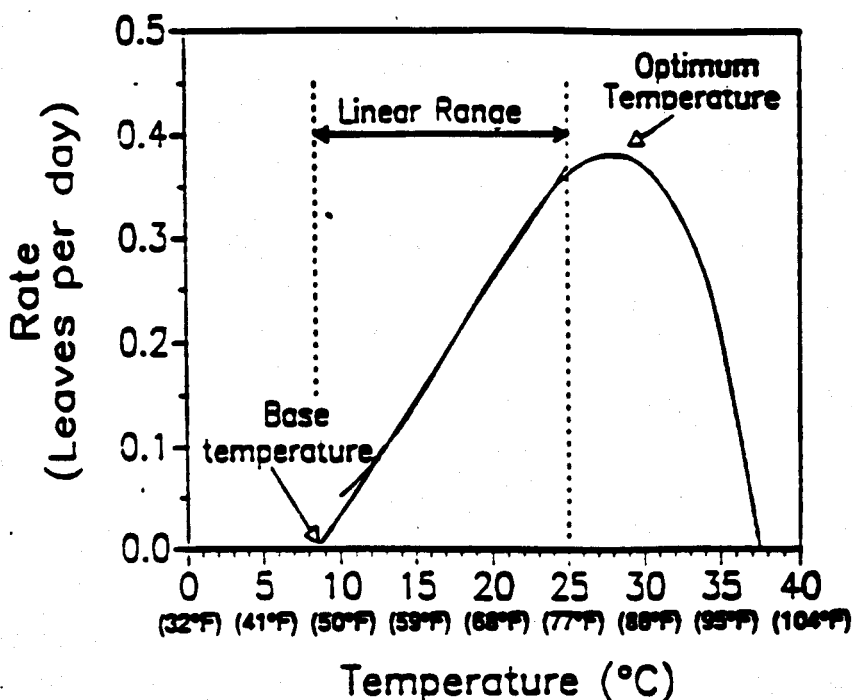

Figure 1. Generalized graph showing the effect of average daily temperature on poinsettia leaf unfolding rate per day.
- 2) leaf unfolding rates a function of average daily temperature when temperatures range from 45 to 85°F (Figure 1).
Leaf unfolding of poinsettias is affected by average daily temperature, as with many other plants, when temperatures range from 45 to 85°F (Figure 1). There is a base temperature and an optimal temperature for leaf unfolding. Between the base and optimal temperature, leaf unfolding